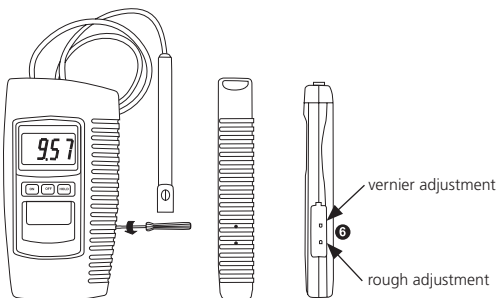

Figure 2
Calibrate the instrument with the calibration screws (Figure 2, ⑥) until display show the value same as 0.60 exactly